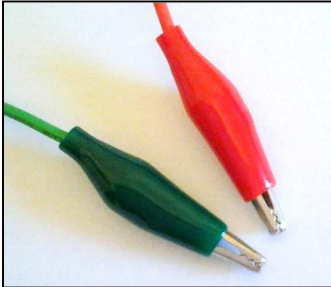

Figure 2. Crocodile clips.
- Crocodile clips (Figure 2) can be attached to a component lead, wire, or another crocodile clip for making electrical connections between the laboratory instruments and your circuit.